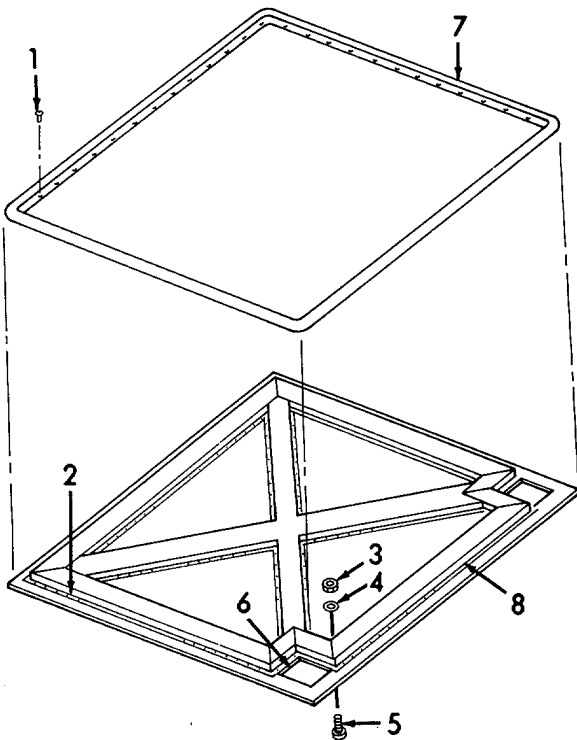

Figure 6-7. Gasket, Replacement.
(2) Replace gasket (Refer to Figure 6-7) as follows:
- (a) Drill out and remove the rivets (1) securing the outside edge of the channel (2).
- (b) Remove the nuts (3), washers (4), screws (5), and gasket retainers (6).
- (c) Remove the gasket (7) and clean the gasket mounting area.